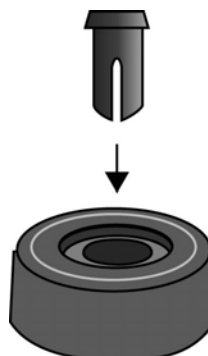

Figure 40. Inserting the Rivet Housing into the Bumper Foot
- a. Insert a rivet housing into a bumper foot. Refer to Figure 40.